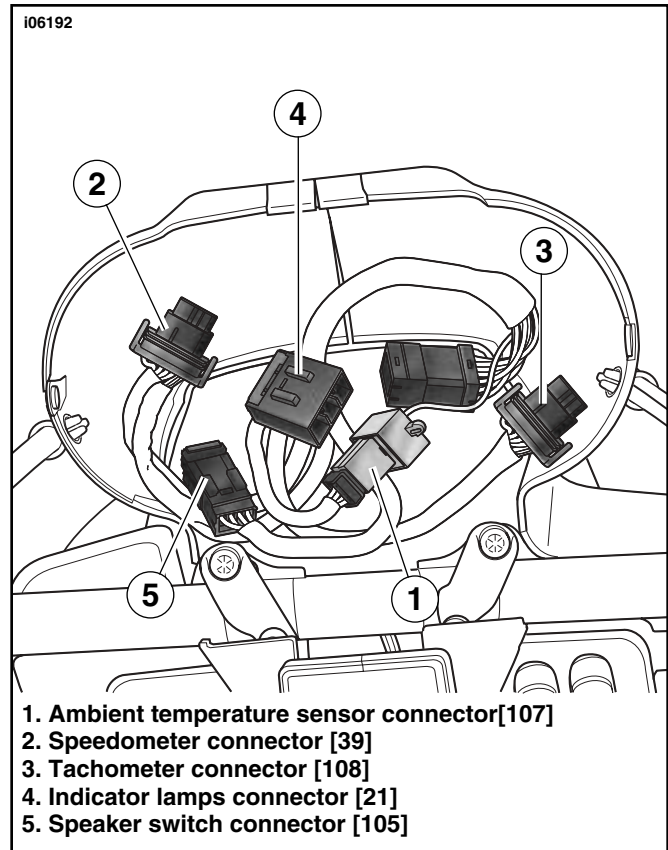

Figure 7. Connectors (behind instrument bezel)
6. See Figure 7. Separate instrument and indicator lamp connectors from interconnect harness:
10. See Figure 7. Separate speaker switch connector [105] to disconnect the left side nacelle switches from the interconnect harness.
24. See Figure 7. Connect instruments and indicator lamps to in interconnect harness: